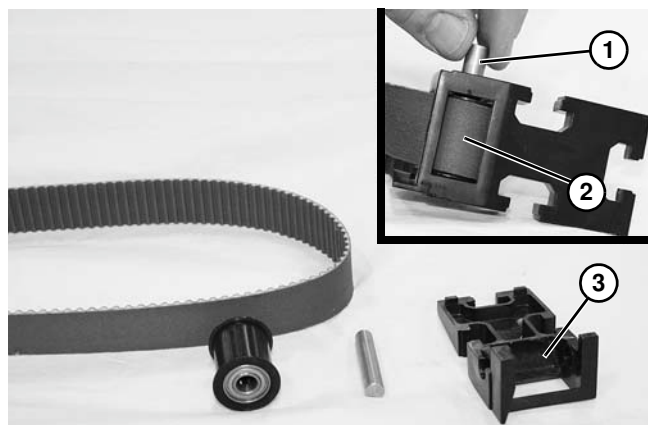

Figure 18
10. Remove roller pin (**Figure 18, item 1**) and roller assembly with belt (**Figure 18, item 2**) from end cap (**Figure 18, item 3**) on both ends of belt.